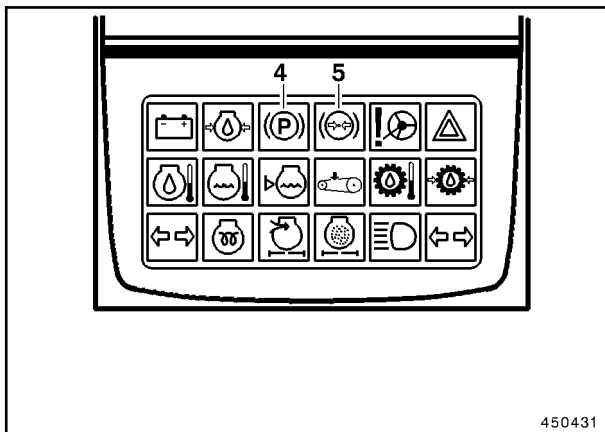
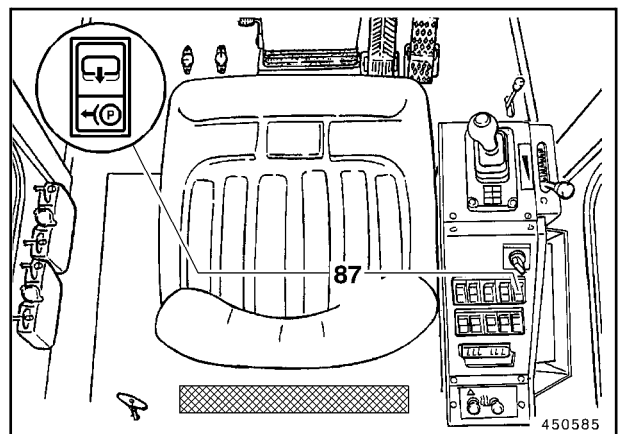

Fig. 2
Fig. 3
When the operating pressure of the braking system is too low, warning lamp (5, Fig. 2) lights up.
- The parking brake is operated with rocker switch (87, Fig. 3) by depressing the switch face with the locking slider. The rocker switch is locked. The parking brake is applied and cannot be released inadvertently. Indicator lamp (4, Fig. 2) lights up.
- Unlock the rocker switch (87, Fig. 3) by sliding the locking slider in the direction of the arrow and by then depressing the symbol face of the switch. The parking brake is released and indicator lamp (4, Fig. 2) goes out.